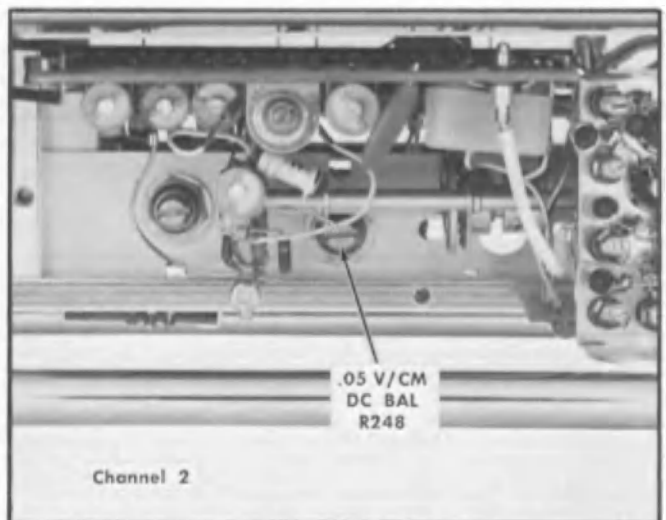

Fig. 7-6. Step 4 adjustment location.
d. ADJUST—Channel 2 .05 VOLTS DC BAL control (see Fig. 7-6) to vertically position the trace to coincide with graticule center.